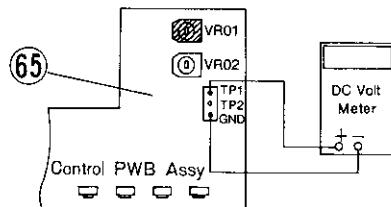

Figure 23
1. Remove the Cabinet top according to DISASSEMBLY INSTRUCTIONS (B) (page 3).
3. Connect the D.C. voltmeter between TP1 and GND terminals on Control PWB Assy (65) (Fig. 23).